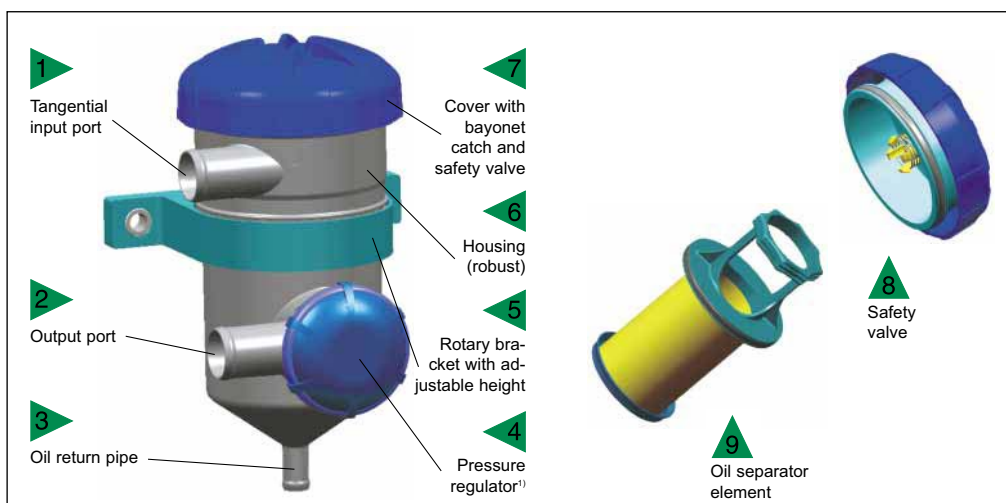

Figure 1: ProVent® components
In view of existing and pending regulations, the pollution aspect and environmental protection, it is clear that allowing these blow-by gases into the environment is unacceptable. The closed crankcase ventilation system solves this problem (see Fig. 1). These pollutants can cause damaging, oily depo-
The housing can be fitted in the bracket (5) in one of 12 positions (see Fig. 1) and can be rotated around its longitudinal axis so that the inlet (1) and outlet (2) can be properly positioned. This excellent flexibility makes ProVent® easily adaptable for any existing engine state.